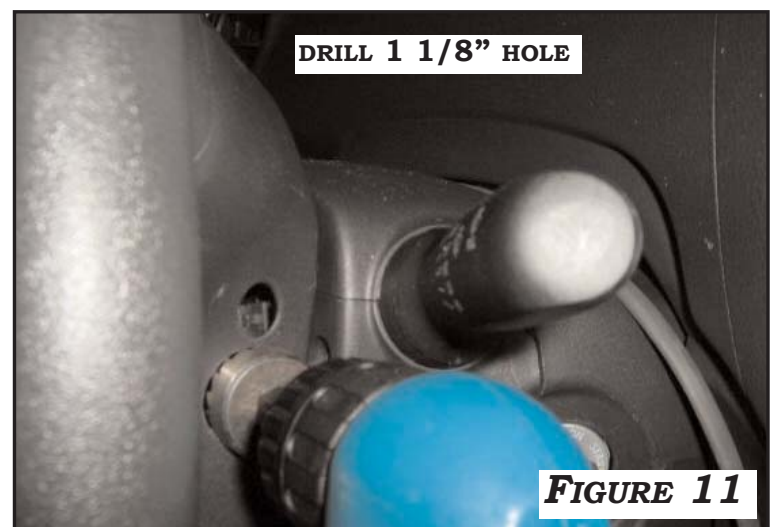

FIGURE 11
2. REMOVE YARIS SWITCH HOLE CUTTING TEMPLATE. USE A 1 1/8" HOLE SAW TO DRILL SWITCH HOLE. **FIGURE 11.**